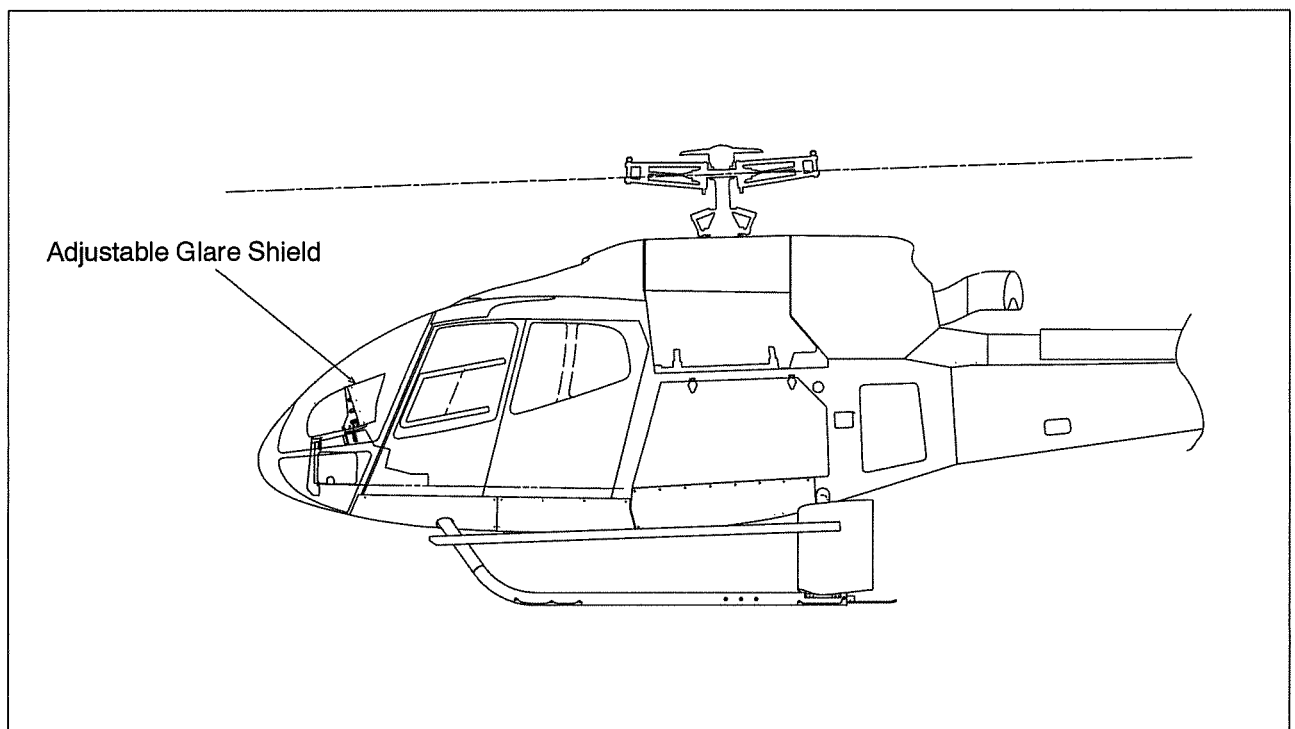

Figure 1 General Layout
- A. The subject Adjustable Glare Shield attaches to the existing instrument panel. Preset adjustment holes enable the glare shield to be adjusted to suit the pilots personal preference. The glare shield protects against glare on the windows and against incoming light on the screens while allowing better visibility of the upper portion of the instrument panel. Refer to Figure 1 for General Layout.
Refer to Figure 1 for General Layout.